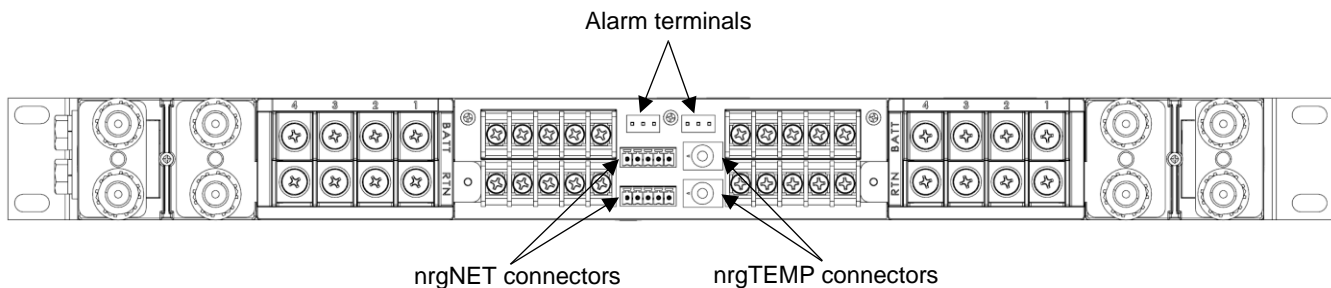

Fig. 2-13: nrg240GT54 Alarm Terminals
34. The alarm terminals, nrgTEMP connectors, and nrgNET connectors are located in the rear center of the panel. Refer to Fig. 2-13.